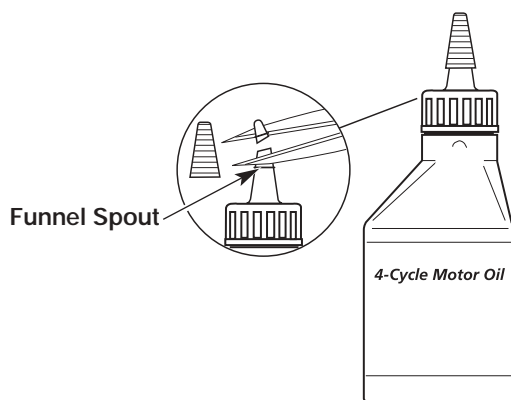

Fig. 6
Your unit is supplied with one 3.4 fluid oz. (100 ml.) bottle of SAE 30 SF, SG, SH oil (Fig. 6).
1. Unscrew the top of the bottle of oil and remove the paper seal covering the opening. Replace the top. Next, cut the tip off the funnel spout (Fig. 6).